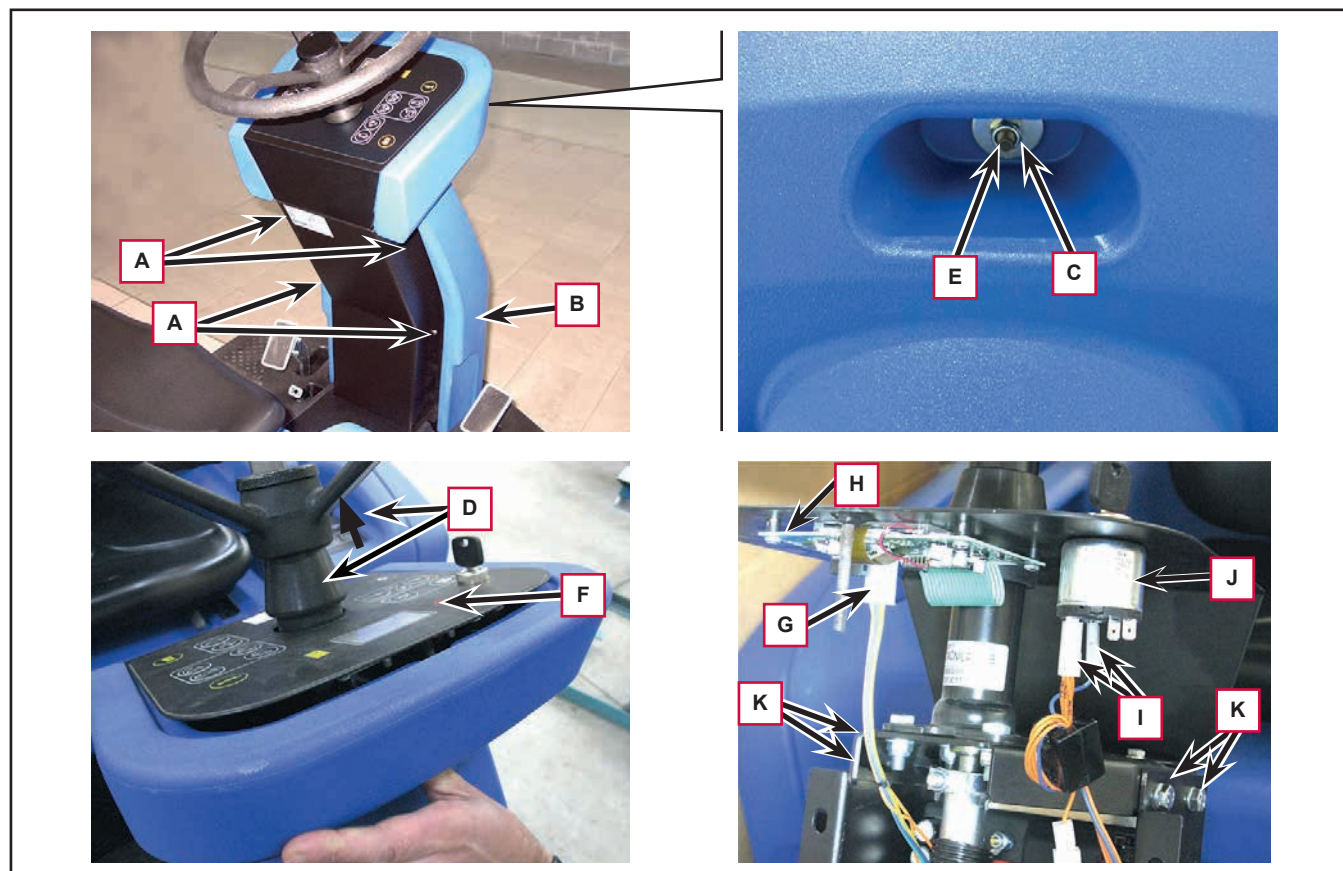

Figure 13
5. Unscrew the four screws (A, Figure 13) fastening the fairing (B).
6. Unscrew the nut (C) on the front.
7. Slide the sleeve (D) until it is flush on the steering wheel.
8. Press the stud (E), sliding it upwards (causing the Main Control Board (F) to lift slightly), then remove the fairing (B) by disengaging it from its seat and the stud (E).
9. Disconnect the electrical connection (G) from the Display Controller (H).
10. Disconnect the electrical connections (I) from the ignition key assembly (J).
11. Unscrew the four screws (K) on the Main Control Board support.